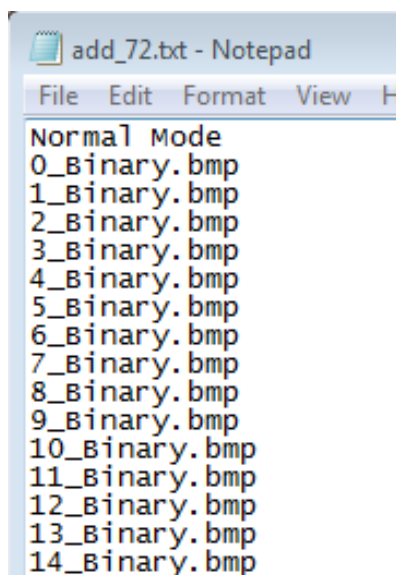
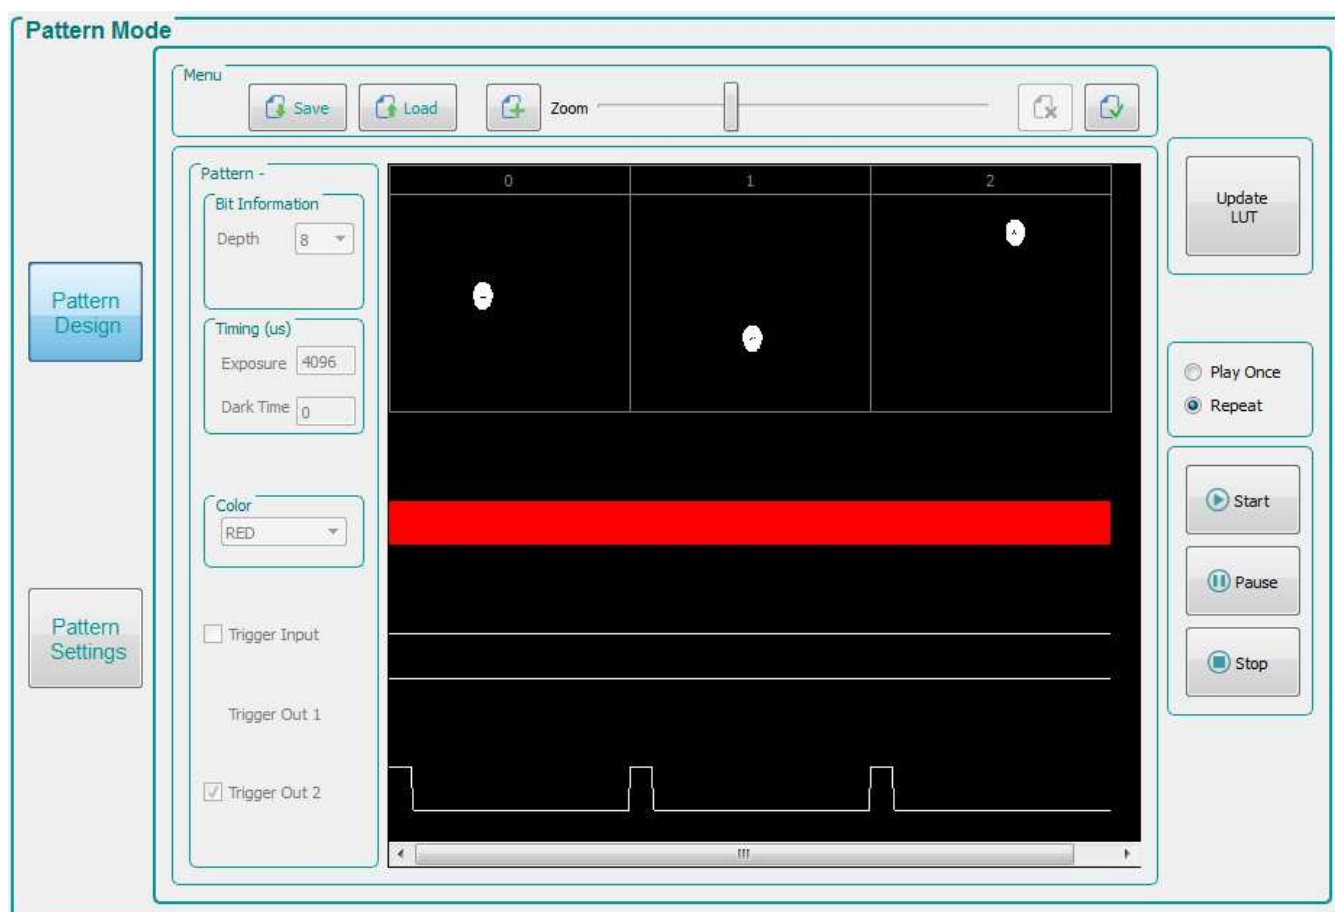

Figure 3-6. Add From List
Figure 3-7. Pattern Sequence
3. Click the *Add Pattern* button in the *Menu* bar and browse for any three bitmap images from the sample of images directory. Be sure to select them from the correct image folder for the EVM that is being used. All three images can be selected at the same time within the open file dialog window. When selecting multiple files at once, the operating system may not load the images in the same order as they were selected. To add images in a predefined order, use the *Load* button. This option loads the images from a text file that contains the file names of each bitmap in the desired order. Alternatively, you can add the images one at a time using the *Add Pattern* button to ensure order. Figure 3-6 shows an example of loading images from a file. The bitmap images must be located in the same directory as the text file. See Figure 3-7 after the images have been added.